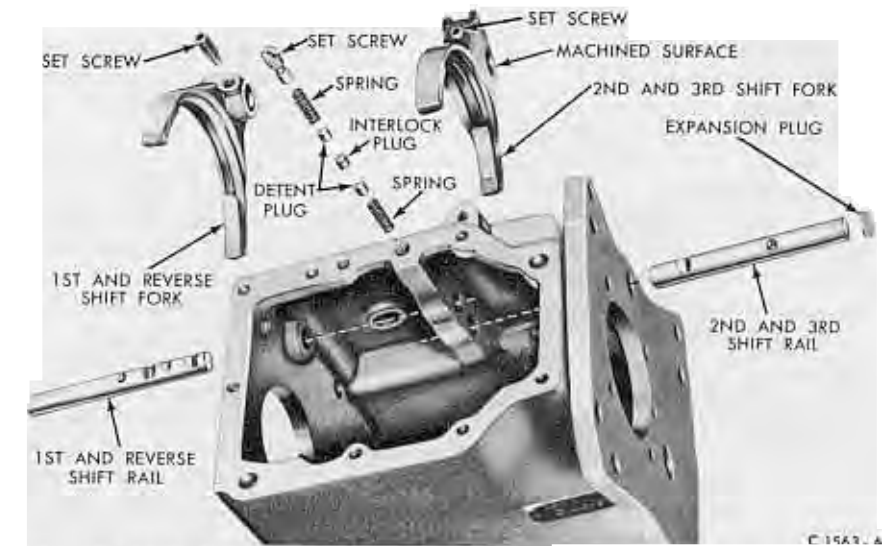

FIG. 9—Shift Rails and Forks—Disassembled
10. Remove the set screw (Fig. 9) that retains the detent springs and plugs in the case. Remove the detent spring and plug from the case.
14. Lift the interlock plug (Fig. 9) from the case with a magnet.
15. Tap on the inner end of the second and third shift rail to remove the expansion plug (Fig. 9) from the front of the case. Remove the shift rail.